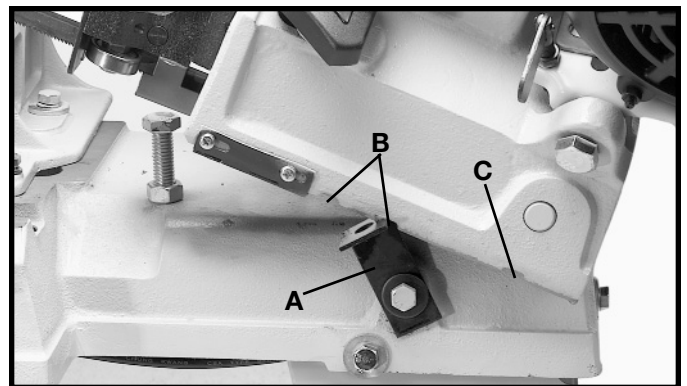

Fig. 28
An arm positioning lever (A) Fig. 28, is supplied on the front of the base and can be engaged with one of the two notches (B) depending on the size of the workpiece, for positioning the arm during set-up. The lever (A) should be engaged with notch (C) when operating the saw in the vertical position.